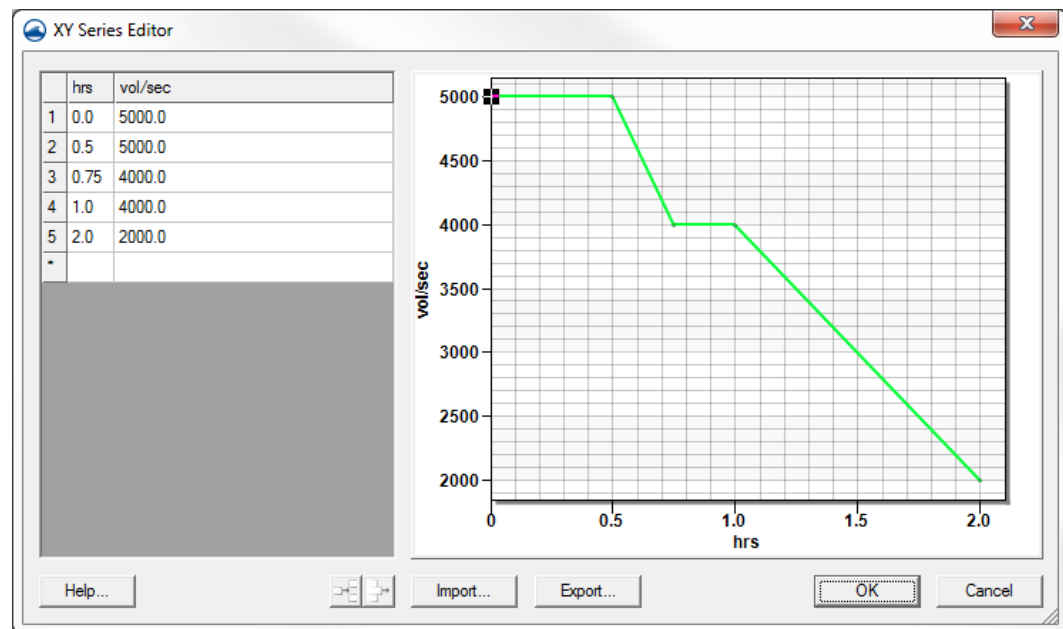

Figure 8 XY Series Editor
- In the *XY Series Editor*, change the flow rate for time “0.0” and “0.5” to “5000” cfs as displayed in Figure 8.